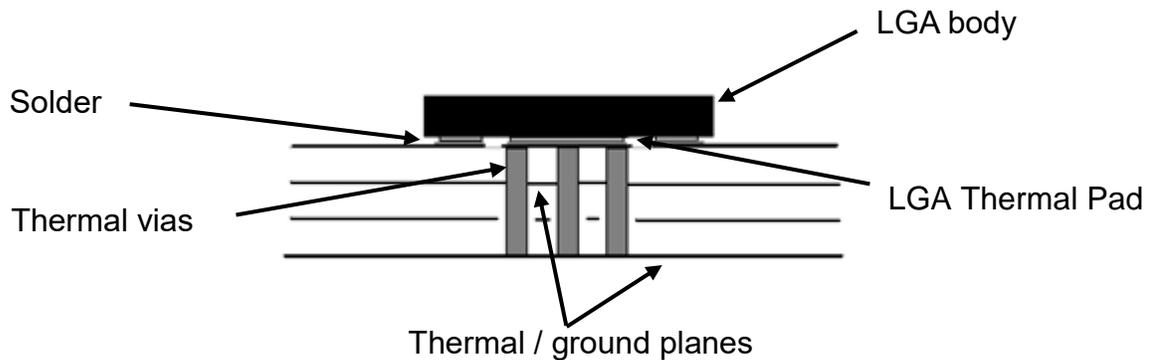

Figure 3. LGA Side View
LGA package with exposed paddle (EP) depends upon good thermal contact between the paddle and the PC board heatsink to maintain a safe operating temperature on the LGA device. The heatsink is integrated into the PC board as a top thermal pad and an array of thermal vias connecting to one or more ground planes, which act as heat spreaders. This is shown schematically in the side view illustration in Figure 3.
Finally, the thermal resistance of the PC board to an additional heat sink, θ_{sink} , is estimated. The total thermal resistance to ambient, θ_{JA} is the series / parallel combination of each of the thermal resistances shown in *Figure 3*.